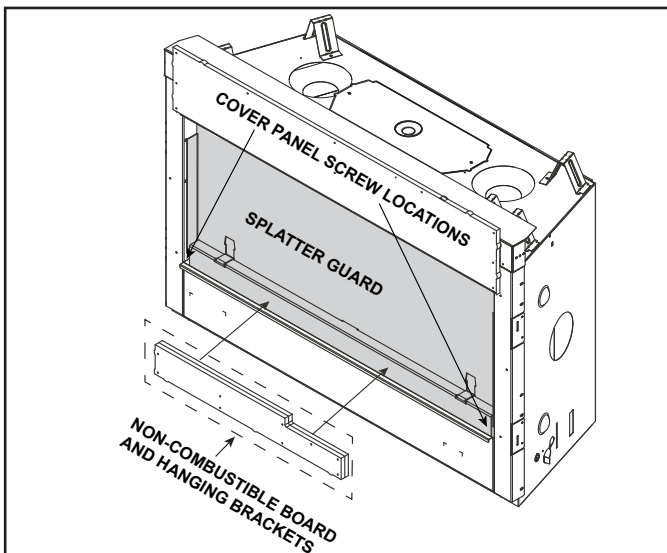
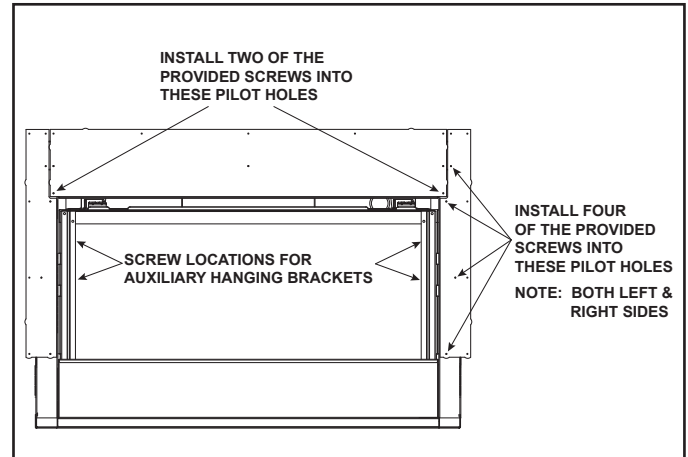
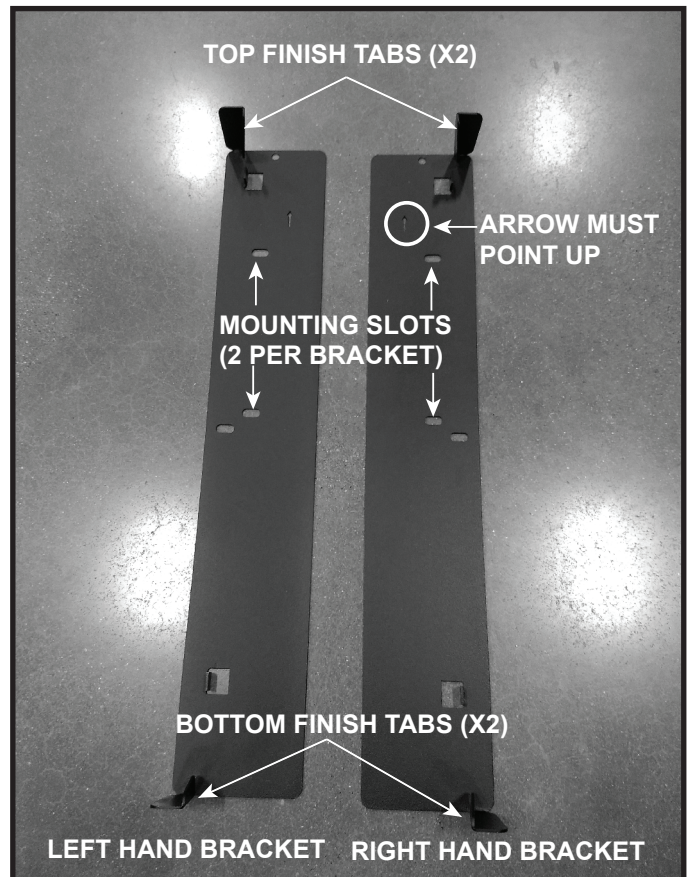

Figure 6.7 Shipping Position - Non-Combustible Sides and Auxiliary Hanging Brackets
Figure 6.8 Installation of the Side Non-Combustible Components
Figure 6.9 Auxiliary Hanging Brackets - Bent For Installation
4. Further secure the top non-combustible board by installing screws into the pilot holes located in the upper left and right corners of the top non-combustible board as shown in Figure 6.8.
5. Install the left and right non-combustible components with four of the provided Phillips screws. See Figure 6.8. After all non-combustible material has been installed, remove the small package of sheet metal screws from the manual bag. Reinstall the lower cover panel. Be sure to “hook” it onto the appliance. Use two screws from the package to fasten the top sides of the cover panel to the appliance. The holes from the cover panel should align with the holes in the sides of the appliance. See Figure 6.7.
The left and right auxiliary hanging brackets are shipped next to the non-combustible board in the cardboard splatter guard in front of the appliance. See Figure 6.7.
2. Bend the brackets as shown in Figure 6.9.
3. Using the shoulder screws included in the manual bag, attach the auxiliary hanging brackets onto the appliance as shown in Figure 6.8 using the mounting slots referenced in Figure 6.9. Pull the brackets away from the appliance to aid with finishing material installation.